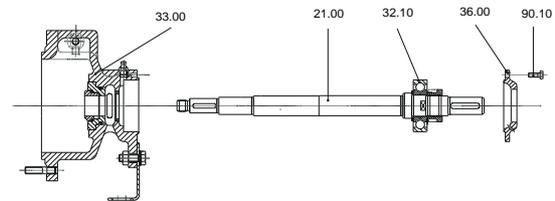

Fig.6
11. Loosen setscrews 90.10 and remove bearing cover 36.00. Push out the shaft 21.00 with bearing 32.10 from the bearing bracket 33.00 (fig.6)